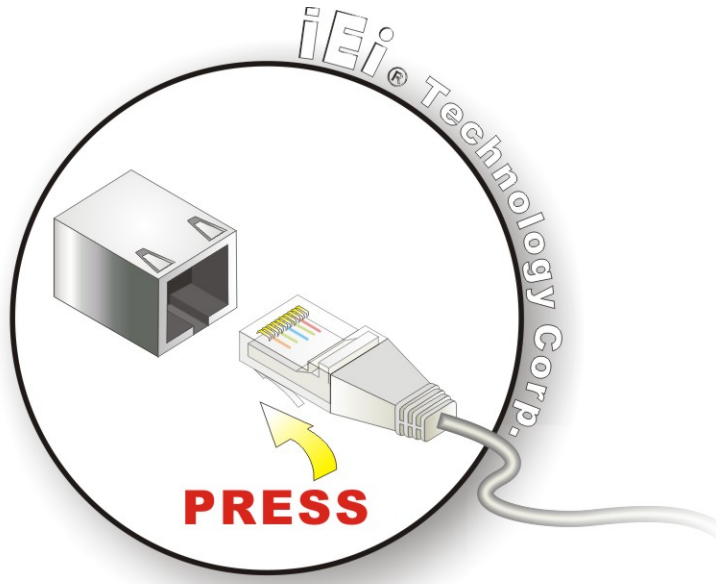

Figure 2-19: LAN Connection
Step 2: **Align the connector.** Align the RJ-45 connector on the LAN cable with one of the RJ-45 connectors on the bottom panel of the AFL-08B-N270. See **Figure 2-19**.